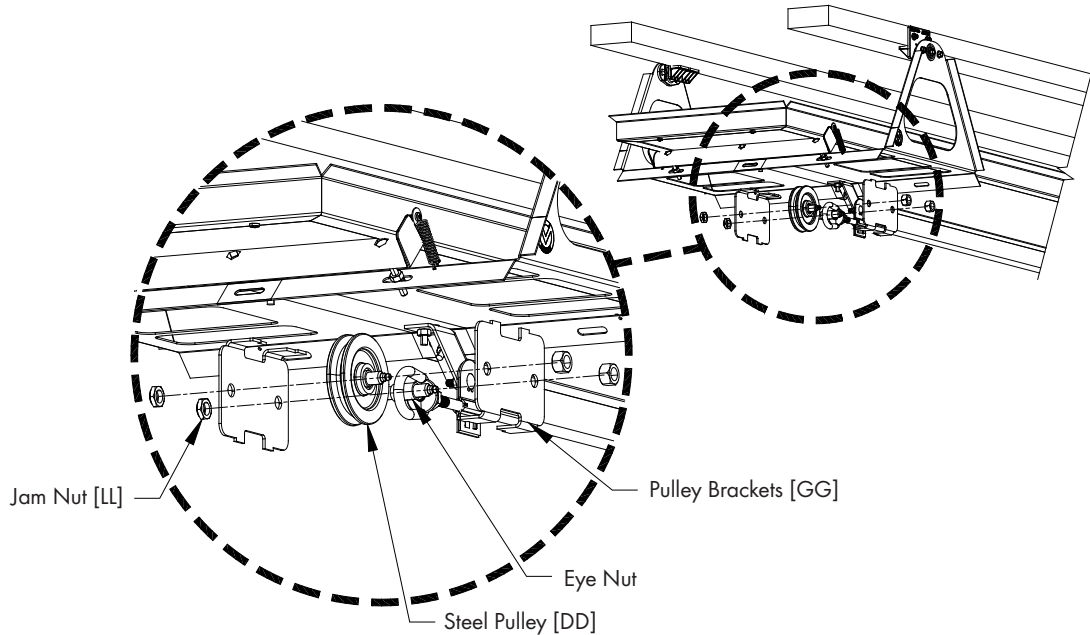

Figure 23
Fasten (2) Double Pulley Brackets [GG] together with (1) 3.5" Dia. Steel Pulley [DD] using (2) Spindles AC1961 [SS] and (4) KN1711 Jam Nuts [LL]. The Spindle with no Pulley goes through the Eye Nut on the actuator end of the Lift Rod. See Figure 23.